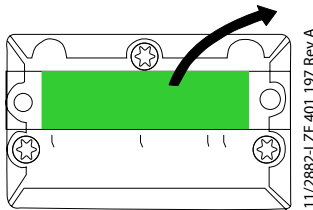

Figure 18 Removing the Beryllium Oxide component from the board.
13. Remove the loosened Beryllium Oxide component by lifting it off as per Figure 18.